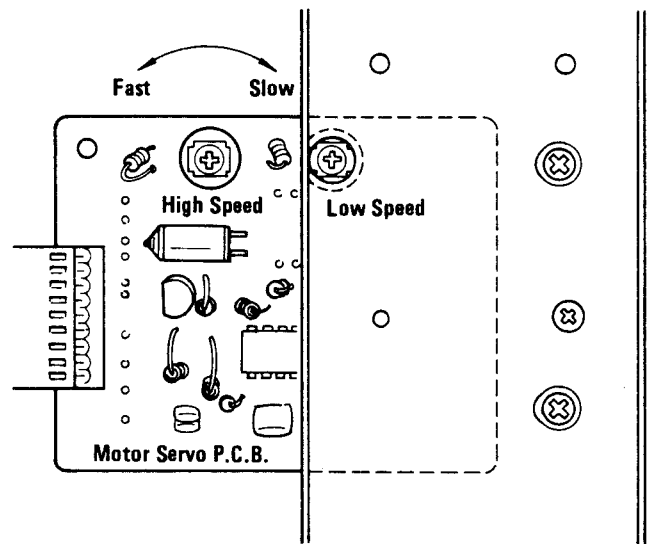

Fig. 2-10
3. Play the middle of the test tape and adjust the HIGH speed trimmer resistor until the frequency counter indicates a reading of 3000 Hz (± 5 Hz). See Fig. 2-10. (CAUTION: Use an insulated screwdriver to prevent shorting.)